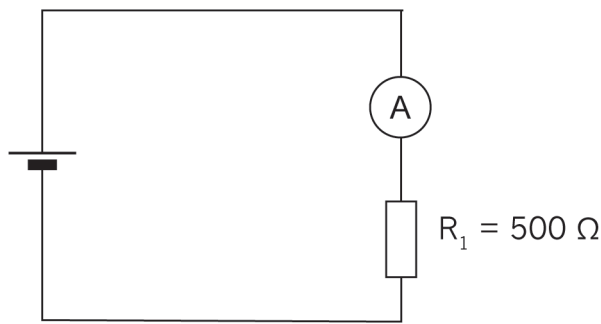

Figure 20: Circuit with one cell, resistor and ammeter
1. Set up the circuit as shown in Figure 20 below, using a cell, resistor and ammeter. If you use a multi-meter instead of an ammeter, set it on the amps scale.